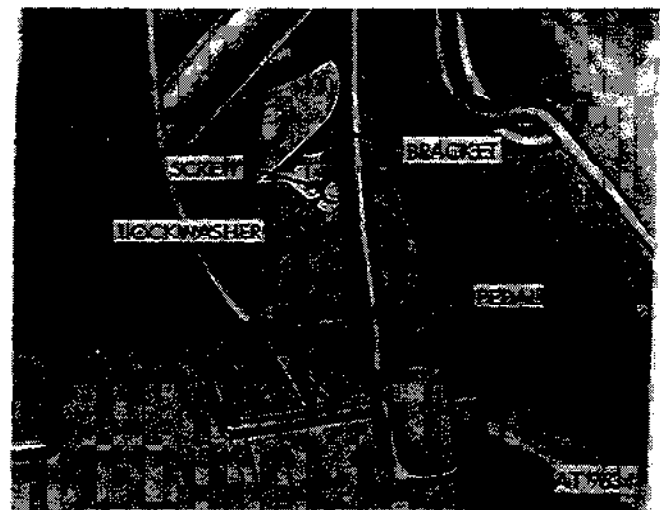

Figure 2-102. Remove accelerator pedal.
(4) Remove two screws and lockwashers from accelerator pedal bracket. Remove accelerator pedal (fig. 2-102).
b. *Installation.* Install accelerator pedal by reversing removal operations (4) back through (1). Refer to figures 2-102 back through 2-99.